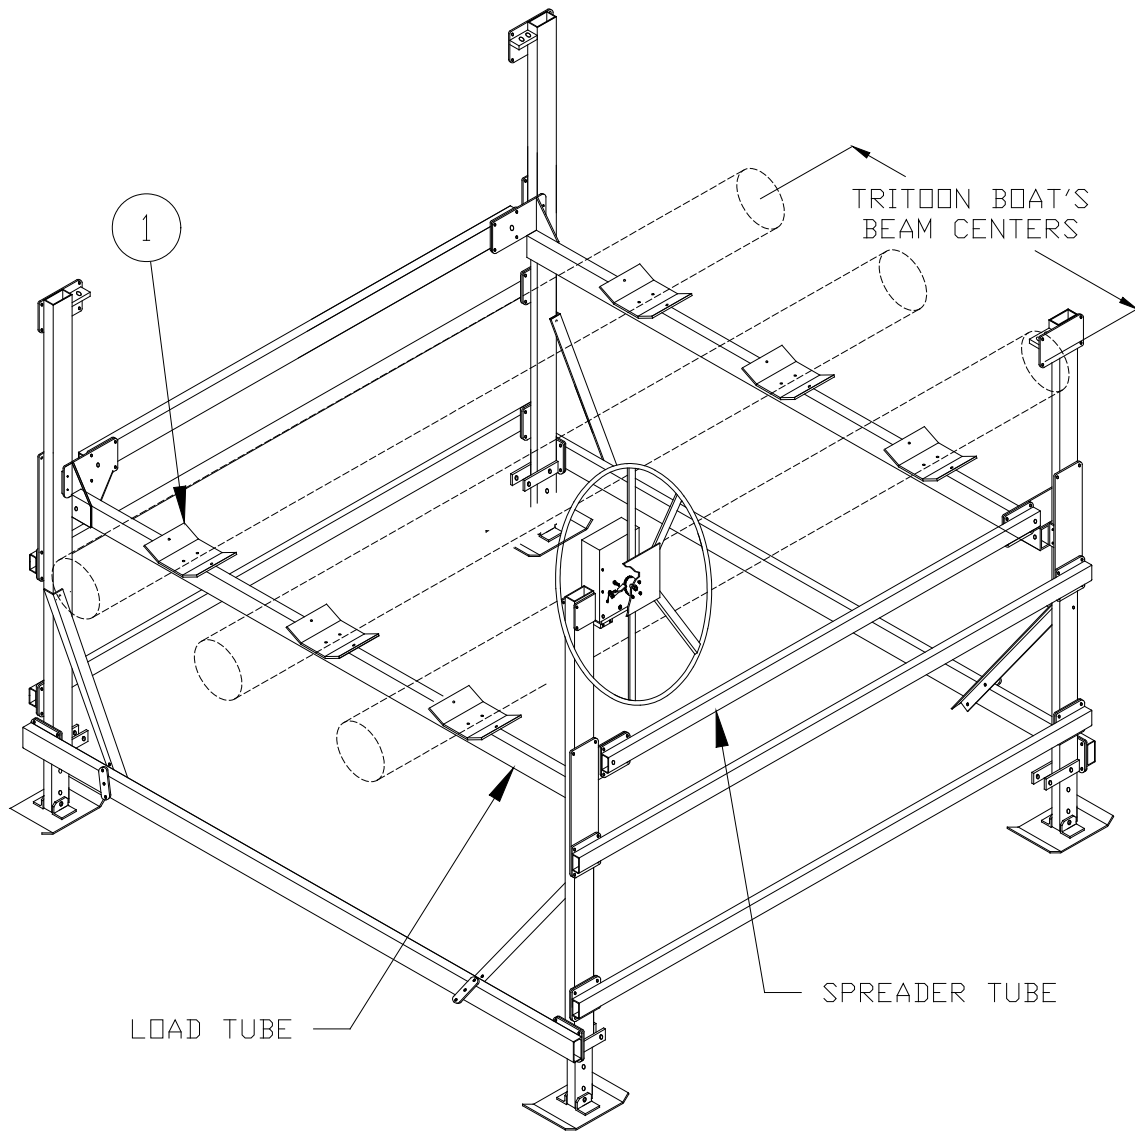

Figure 2-1.
1. Refer to Figure 2-1. Position the four-hole cradle mounting plates (1) face-up and centered on the load tubes. Measure the beam of your tritoon boat when locating the plates. Boat should remain centered on lift for best operation.